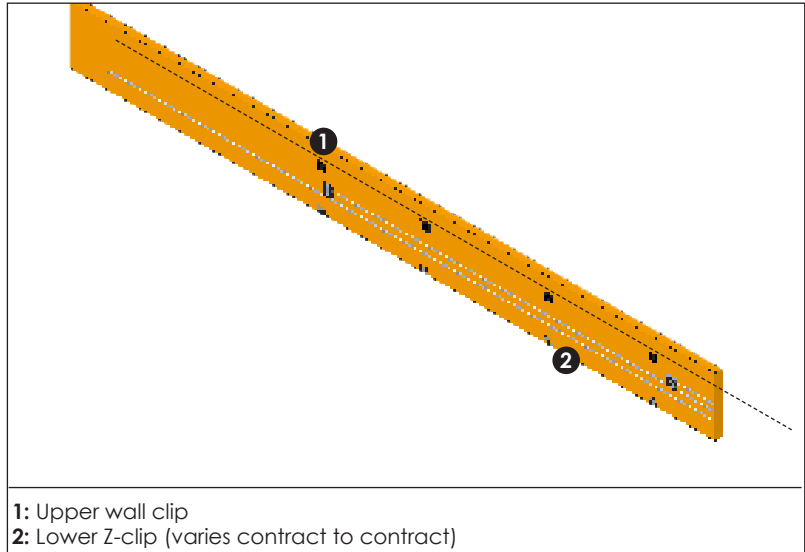

Figure 9: Plumb & Level Upper Wall Clips
- 1. Ensure the upper wall clips are plumb and level according to the contract-specific Shop Drawing. Refer to **Figure 9**.
- 2. Verify the lower Z-clips are installed per the contract-specific Shop Drawing. Refer to **Figure 9**.